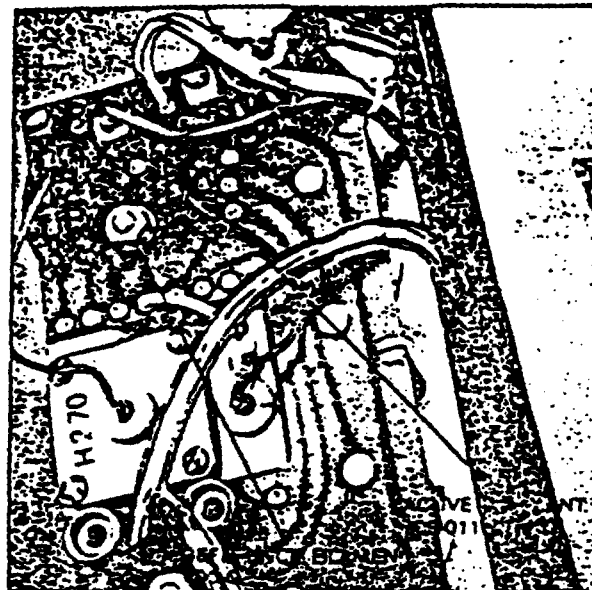

Figure 18: Active and reference filament locations.
Filaments and Flame Arrestor (Refer to Figure 18)
8.6 GPK Sample Pump/Motor Replacement (Refer to Figure 18)